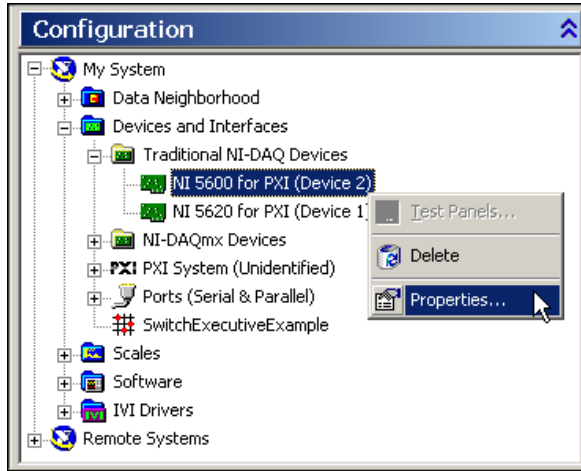

Figure 1-9. Select Properties from the NI 5600 Right-Click Menu
- Right-click the NI 5600 and select **Properties**, as shown in Figure 1-9.